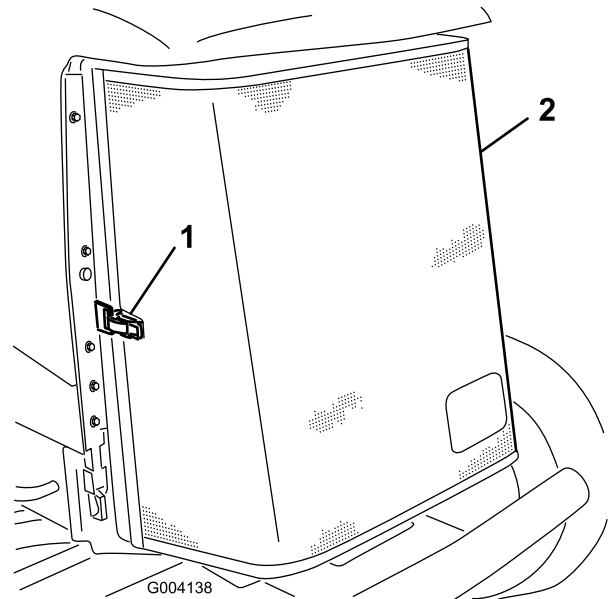

Figure 100
5. Unlatch the rear screen and pivot it open (Figure 100).